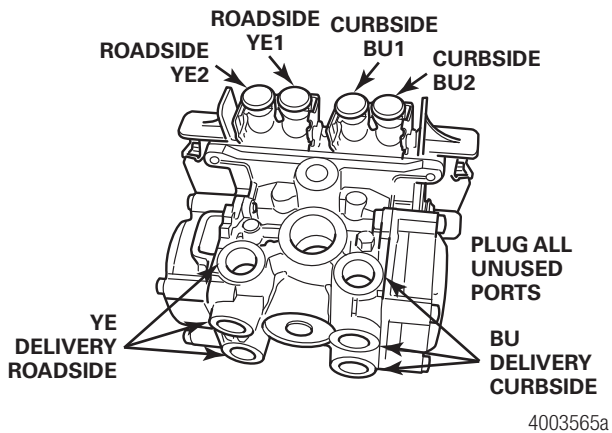

Figure 27
- If the ECU/dual modulator valve assembly is mounted with the sensors facing the REAR of the trailer, the air lines for the three delivery ports located under the YE sensor connectors must be routed to ROADSIDE; the air lines for the three delivery ports on the opposite side of the valve must be routed to curbside. Figure 27.